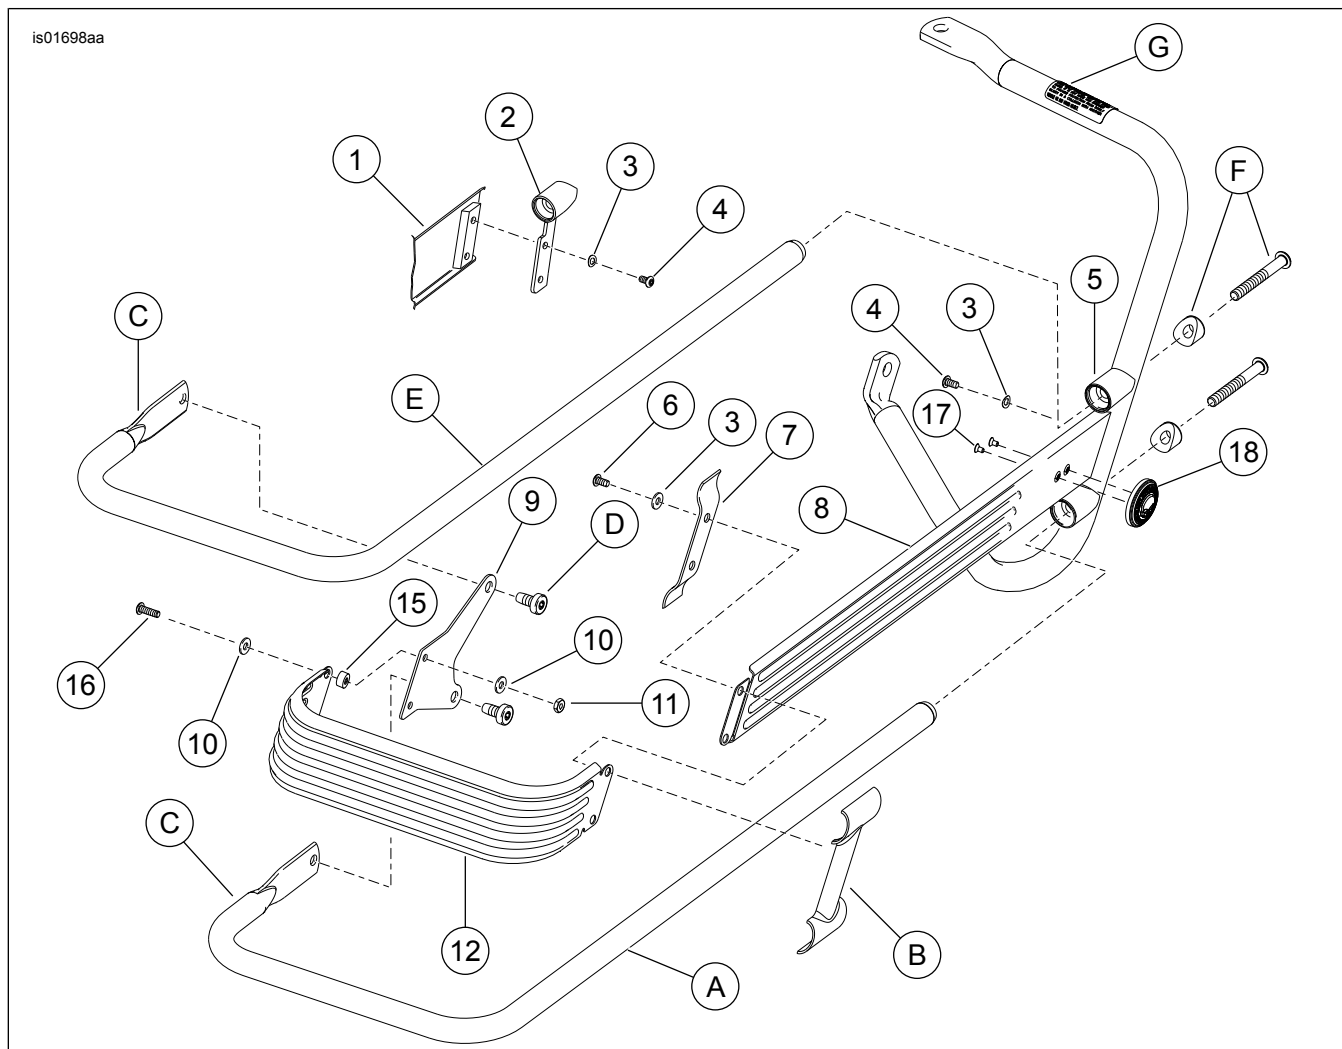

Figure 1. Service Parts: Saddlebag Guardrail Trim
See Figure 1 and Table 1.
2. See Figure 1 and Table 1. Remove the screws fastening the stock upper front guardrail mounts to the guard rail. Discard the stock upper front guardrail mounts.
4. Loosely fasten the rear inside brackets (9) to the guardrail rear trim (12) using screws (16), spacers (15), flat washers (10), and keps nuts (11) as shown.